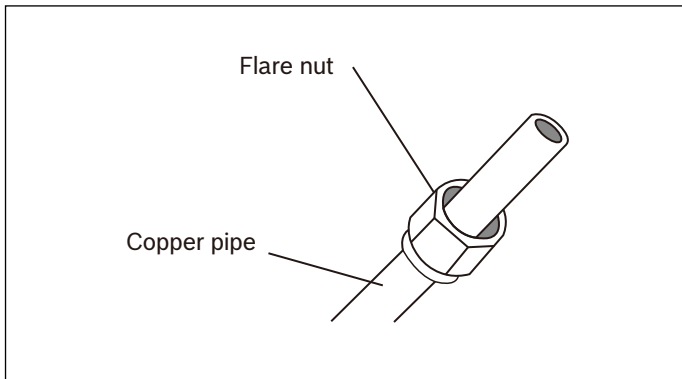

Figure 14
3. Place flare nuts on both ends of pipe. Make sure they are facing in the proper direction, because you can't put them on or change their direction after flaring. See Fig. 14.